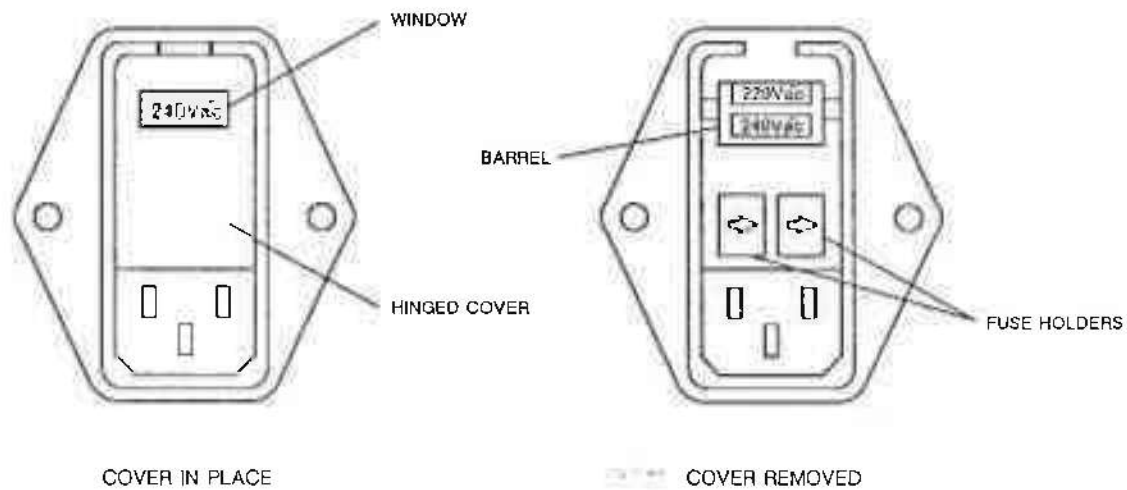

Fig. 1 AC connector showing voltage selector and fuse holders
5. The selected voltage is displayed in a window at the top of the connector. The instrument is normally despatched with the selector set to 240 V. To select another voltage, insert a screwdriver into the slot at the top of the moulding and twist slightly so that the cover is free to hinge downwards. Rotate the barrel so that the correct setting is displayed, ref. Fig. 1.